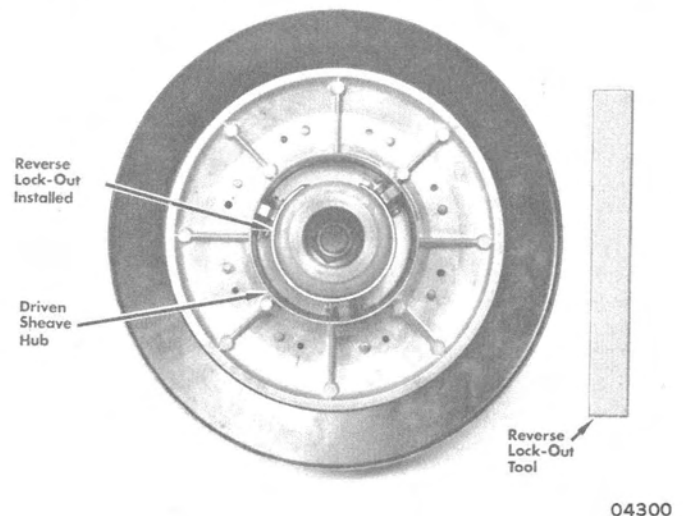

Figure 3. Reverse Lock-Out Tool Placed in Position
1. Remove reverse lock-out tool from vehicle tool kit. Shape tool to form a semi-circle and insert tool in rear side of drive sheave assembly to hold reverse locking bars in a neutral position. (Figure 3) Reverse locking bars are in a neutral position when held out against the inner spring retainer.